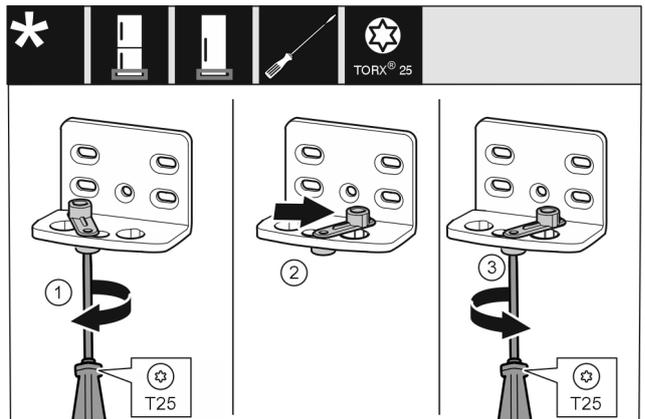

Fig. 14
- ▶ Loosen the screw using a T25 screwdriver. Fig. 14 (1)
- ▶ Lift the door closing aid and turn it 90° to the right in the hole. Fig. 14 (2)
- ▶ Tighten the screw using a T25 screwdriver. Fig. 14 (3)